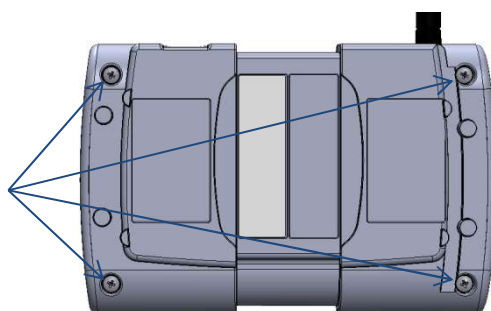

Figure 1: Inserting the SIM Card
- 3) Insert your SIM card into the slot as shown in Figure 1. The SIM card should be inserted with the gold contacts facing the front of the Control Panel, and with the cut-off corner outermost, see diagram below. IMPORTANT: Note the SIM card number and Control Panel barcode to report to the System Administrator.